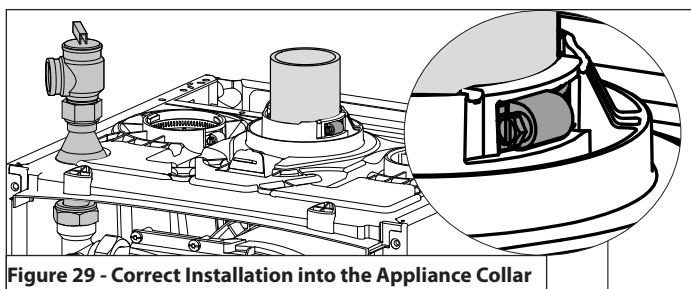

Figure 29 - Correct Installation into the Appliance Collar
**Follow the steps to install exhaust vent pipe into the boiler vent collar. See Figure 29 for additional details.**